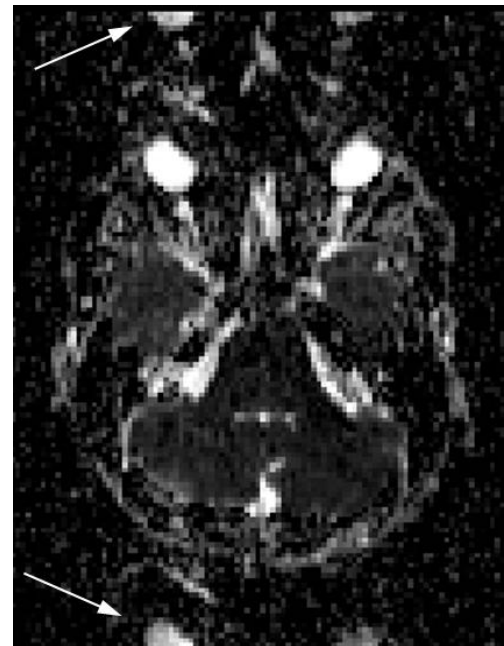

Figure 4.6
- Wrapping artifacts contain one or several “shadow” images that may or may not be inverted. In Figure 4.6, the eyes clearly mark this artifact.